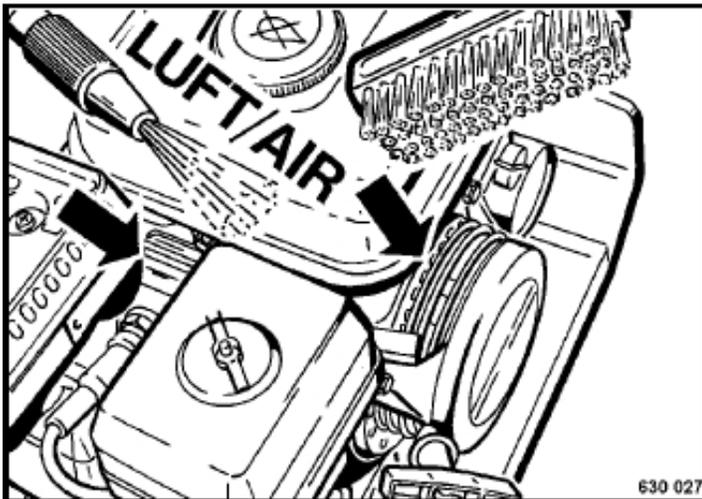

Fig. 32
- | Brush off dry dirt from the cooling fins and the cooling air intake openings with a suitable brush and blow it out with compressed air (Fig. 32).